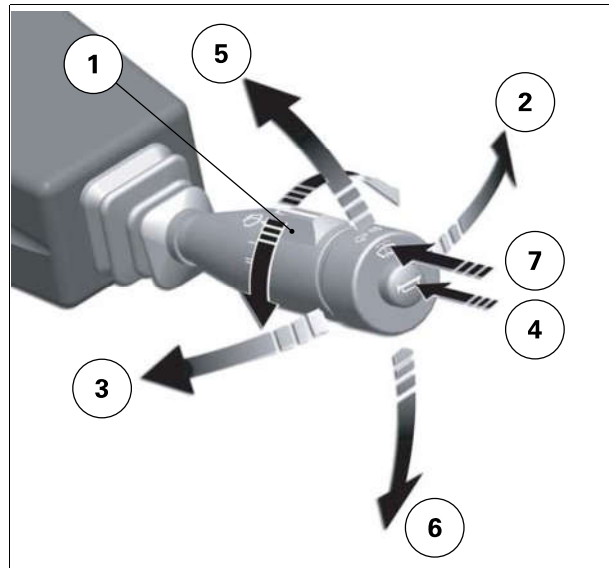

Fig. 4.
| (2) | Control unit fig. 4 | (8) | Rear work lights (operational when side-lights are switched on). |